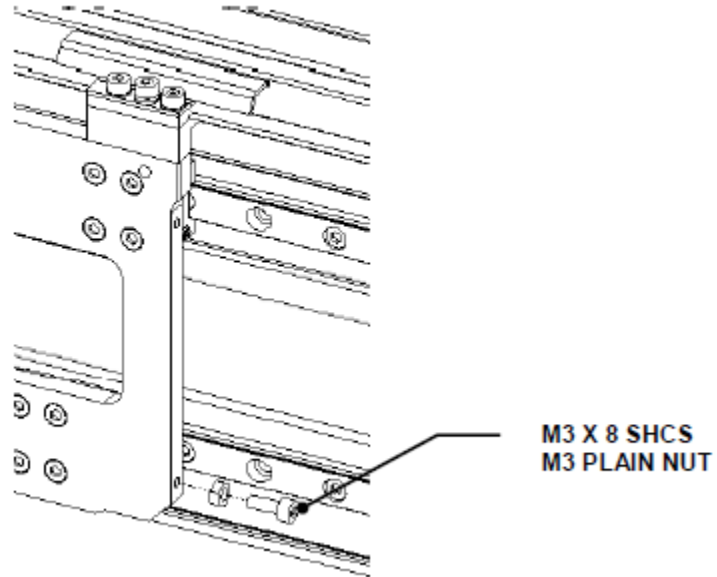

Figure Y-11: Positioning Nut on Z Plate
6. Ensure that there is a positioning nut on the Z Drive Plate as shown in Figure Y-11. If not, insert one.